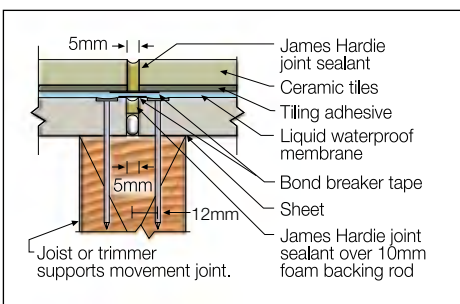
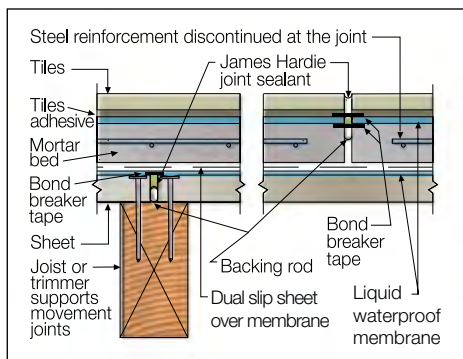

FIGURE 13 DIRECT TILE - TILE MOVEMENT JOINT OVER SHEET MOVEMENT JOINT
FIGURE 19 MORTAR BED - MOVEMENT DETAIL
When tiling direct to sheets with no mortar bed, the 5mm butt joints between all adjacent sheets act as control joints. These control joints must be carried up through the tiled finish, see Figure 13.
- All sheet control joints must carry up through the tiles, see Figure 13.
- If additional tile control joints are required, these should coincide with sheet edges. See Figures 13 and 14. Refer to relevant tile codes for recommended tile control joint spacing.
When tiling direct to sheets with no mortar bed, the 5mm butt joints between all adjacent sheets act as control joints. These control joints must be carried up through the tiled finish, see Figure 13. When tiling to a mortar bed, the sheet control joints do not need to align with mortar bed and tile control joints, see Figure 19.